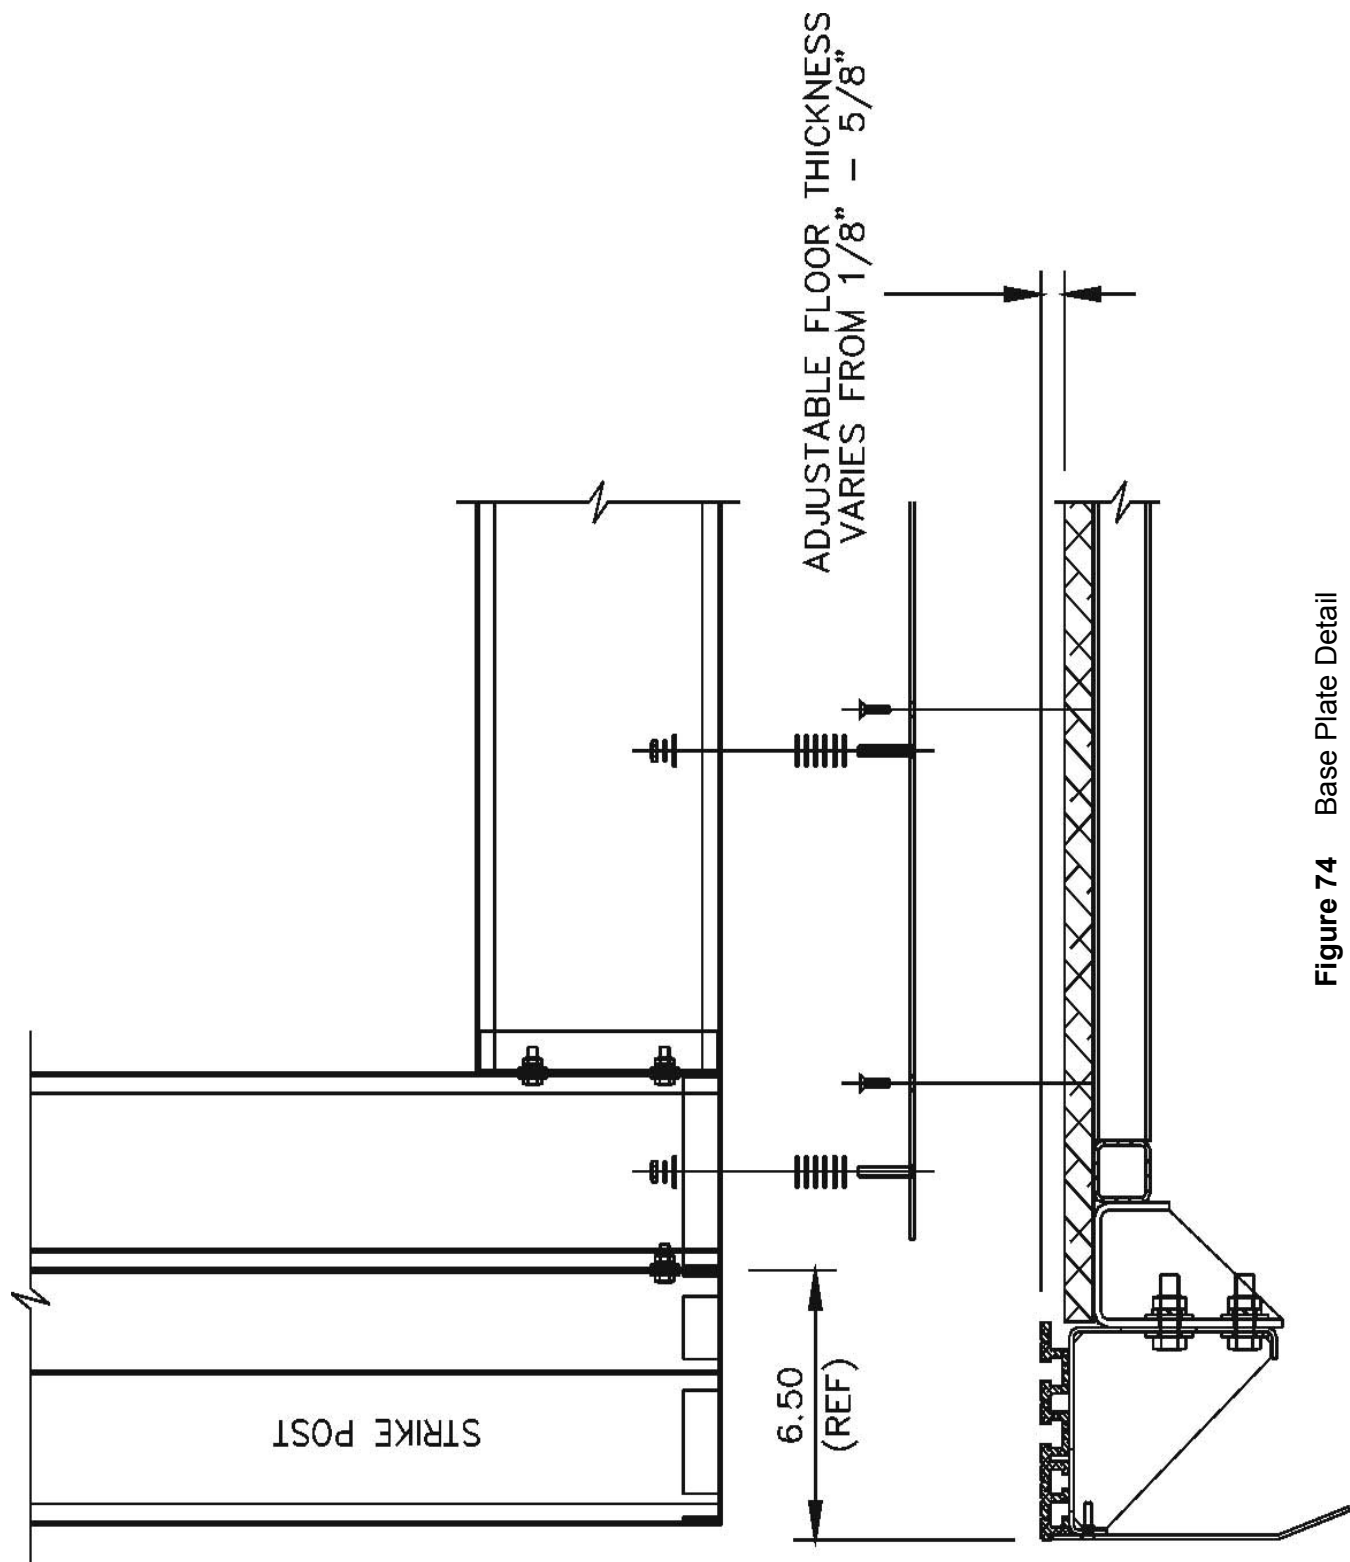

Figure 74 Base Plate Detail
- 2) Insert washers over the studs on the wall base plates and secure the wall to the base plates using the  $\frac{1}{4}$ " - 20 hardware supplied. Note, the number of washers required is determined by sill / finished floor height. Refer to Figure 74.
The side wall (opposite control wall) for steel cab models is placed  $1\frac{1}{2}$ " (38 mm) from the edge of the platform (Figure 74).